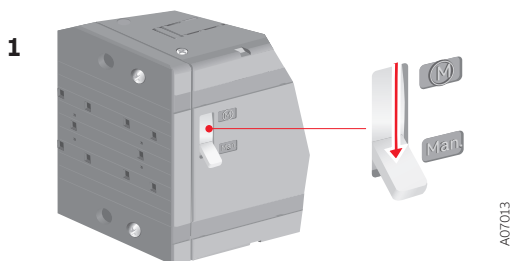

Figure 15.5 Motor/Manual selection in the Man. position
1. Turn the Motor/Manual selector to the Manual (Man.) position, see Figure 15.5.